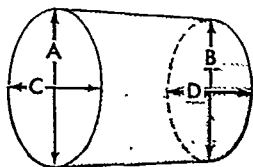

Figure 68
4. Measure the diameter of each journal in at least four places to determine out-of-round, taper or wear, Figure 68. If the journals exceed the specified wear limits, page 61, they should be refinished to size for the next undersize bearing, page 63.